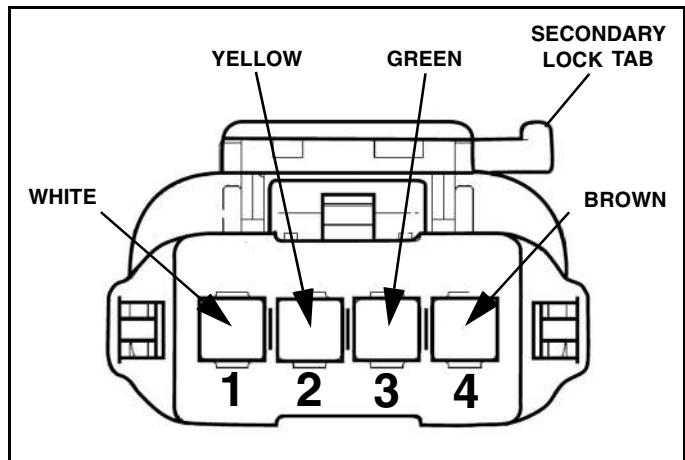

Figure 1-4
6. Remove blue pin lock from female connector. Push the pins on the end of each of the four wires into the back side of the connector (the end with recessed light blue seal). (See Figure 1-4 for pinning).
7. Verify wire placement by connecting the ProControl™ harness. If wire colors do not line up, verify pin placement with Figure 1-4.